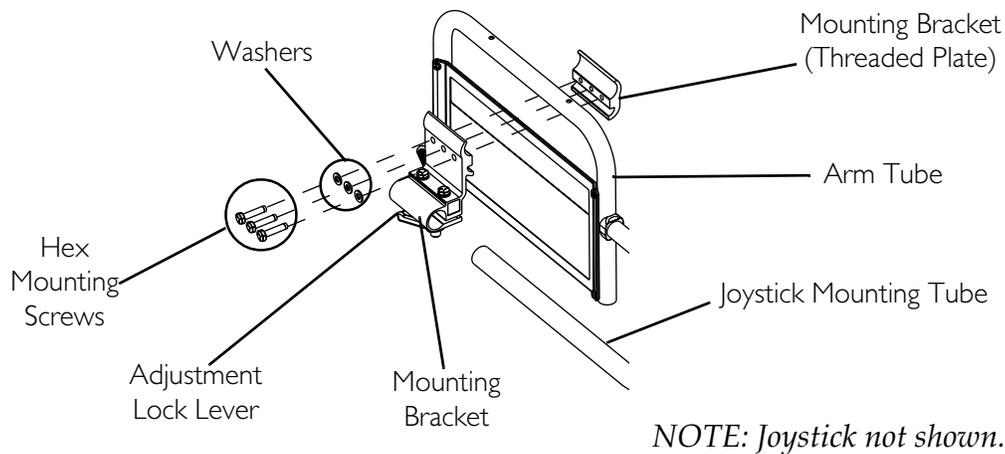

FIGURE 5.10 Repositioning the Joystick - ASBA Seat Model
NOTE: For this procedure, refer to FIGURE 5.10 on page 43.
4. Reposition mounting bracket on opposite arm tube ensuring the threaded plate of the mounting bracket is on the inside of the arm tube as shown in FIGURE 5.10.